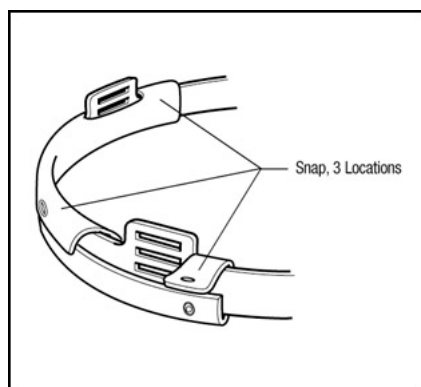

Fig. 3: Installing the L-115 Sweat Pad
- Wrap the sweat pad around the headband in the area that comes into contact with your forehead (Fig 3).